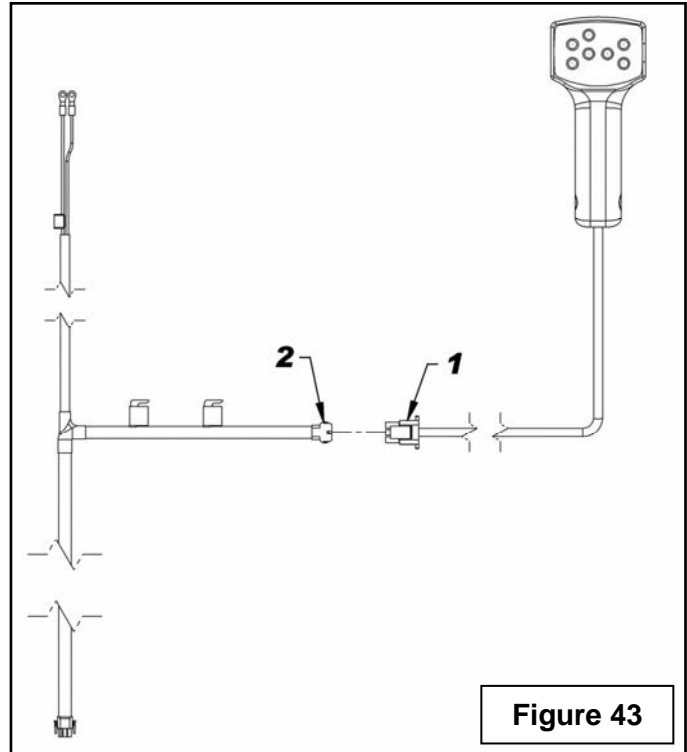

Figure 43
- 7. Figure 43:** Connect the handle connector (item 1) to the female connector of the power supply harness (item 2).